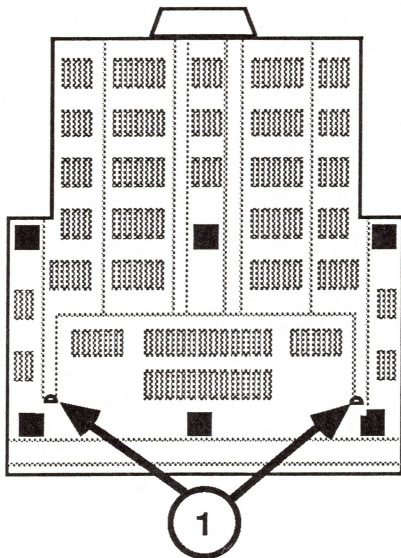

FIGURE 5
4. Remove the two screws (Figure 5, #1) from the bottom of the monitor.